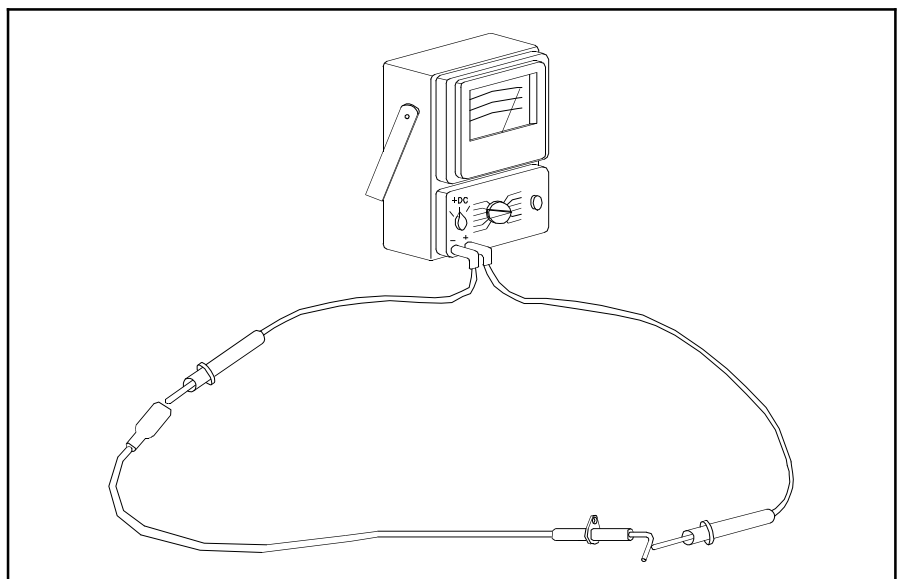

Figure 11.47 Continuity Check of Electrode Wire
24. If the Ignition electrode does not send sparks to the Burner, check the electrode wire for continuity as shown in Figure 11.47.